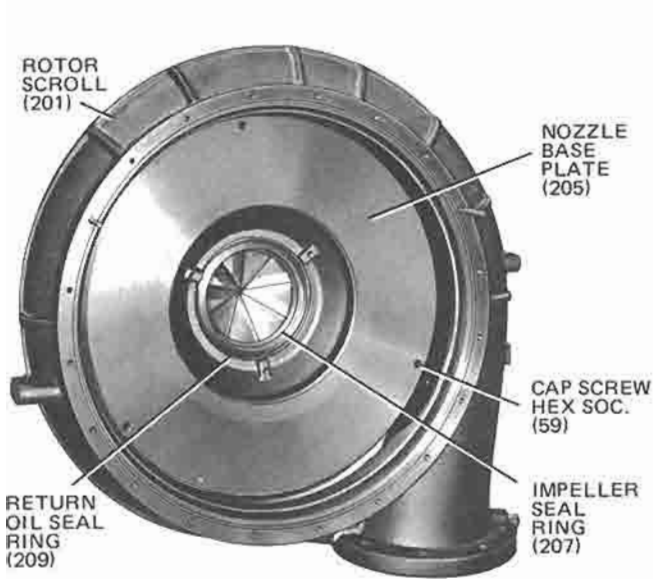

FIG. 55 — COMPRESSOR ROTOR SCROLL ASSEMBLY
1. Remove the compressor coupling and the compressor rotor support as outlined previously in this instruction. An "O" ring seal (217) is used on the joint between the nozzle base and scroll. Fig. 55 shows a compressor rotor
To replace control shafts refer to Figs. 55, 56 & 57 and proceed as follows: